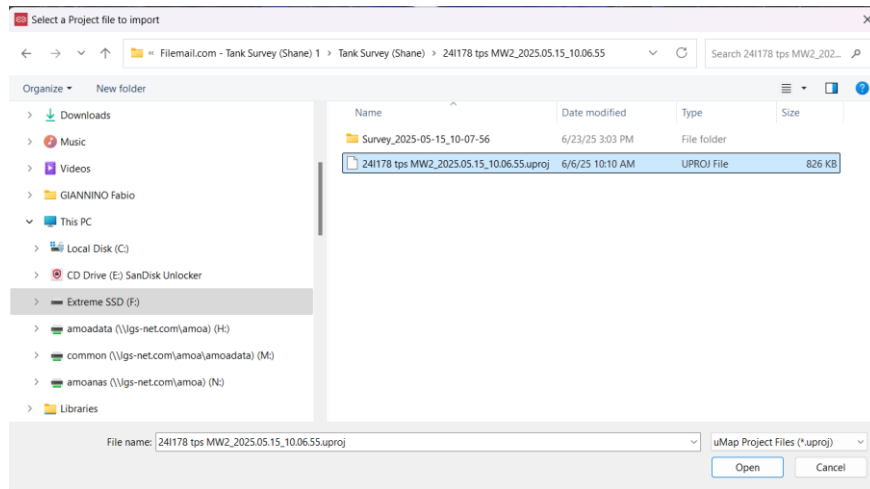

Fig. 28 Import acquisition project step 2
2. Follow the path where project data were saved and select the *.uproj file inside the project folder (Fig. 28), and press OPEN,